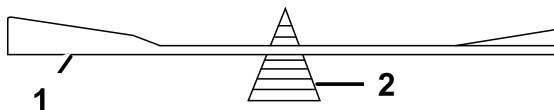

Figure 65
- Check the balance of the blade by putting it on a blade balancer (Figure 65).